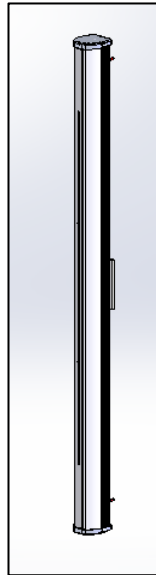

FIG.3 -VAPOR LUMINAIRE (AS SHOWN)
1. ELEMENT/VAPOR INDOOR SCENCE LUMINAIRE. (as shown in FIG. 3)